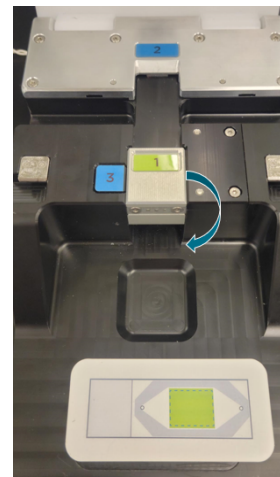

Figure 50: Lower Tailgate
4. **Lower the tailgate** (tool marker 1) on the flow cell assembly tool (Figure 50). Hold the labeled end of the slide and insert the slide, tissue side up, non-labeled end first, into the tool through the bottom opening. The slide is fully inserted once the non-labeled edge contacts the back of the slide stage (tool marker 2).